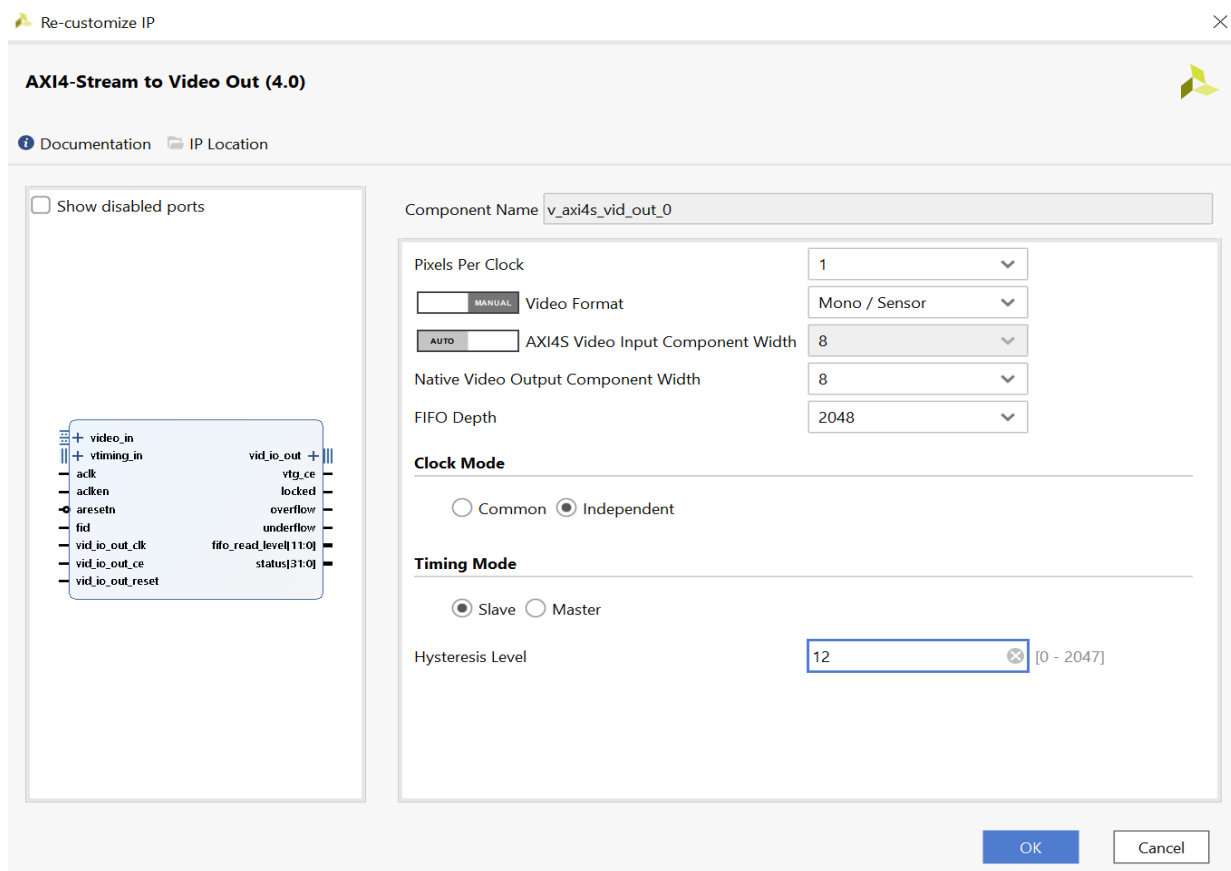

Figure 10. Configuration for the “AXI4-Stream to Video Out” component
3. Include a “AXI4-stream to Video Out” component and configure it as depicted in figure 10. Select a monosensor mode to deal with grey level pixels. Select a pixel per cycle and 8-bits per sample. Use independent clock to manage the axi4 clock separately to the video one. Select a 2048 pixels fifo memory. Explain why the component had to be configured in SLAVE mode?